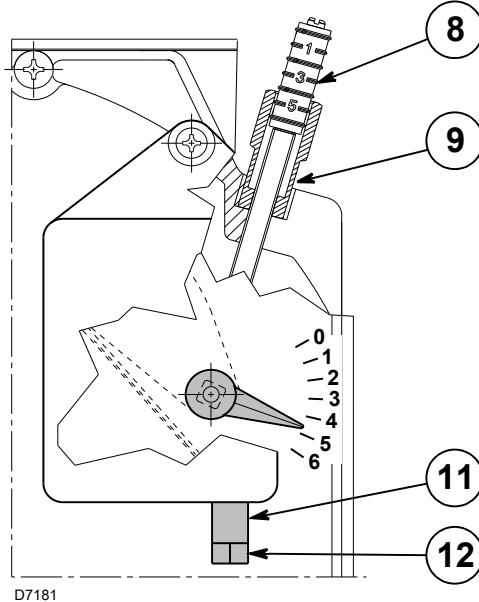

Fig. 15
The first start up should always be carried out using the screw 12)(Fig. 15), so that the 1st stage air damper position indicator is greater than notch 1, (factory setting notch 1).
- Loosen the nut 9) and use the screw 8)(Fig. 15) to adjust the 2nd stage air flow (see CO₂ values in the Tab. T).
- Adjust the 1st stage using the screw 12) after loosening (clockwise) the nut 11)(Fig. 15) referring to the table below for the CO₂ values.
- Once the ideal setting has been reached, block (anti-clockwise) the nut 11)(Fig. 15). When the burner stops, the air damper, due to the pressure of its weight, automatically closes, up to a max. flue depression of 0.5 mbar.